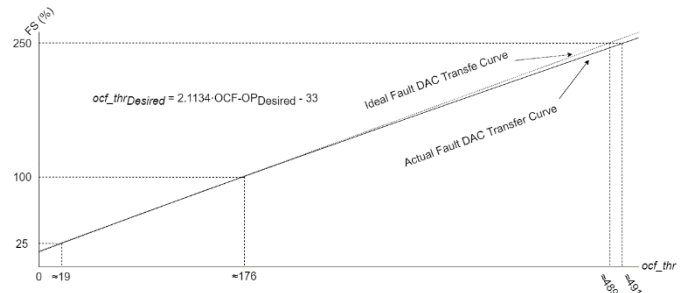

Figure 25: OCF DAC Nonidealities, INL Error
The second method attempts to mitigate average DAC INL error. The equation in Figure 25 will give the desired average INL compensated ocf_thr code. Note that this only compensates for
the average INL error measured in production. Measuring after programming and reprogramming as needed is the most accurate way to mitigate the device specific INL error. A visual representation and equations of the INL compensation and impact on the OCF(OP) are shown in Figure 25.